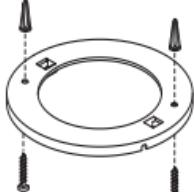
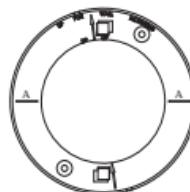

FIGURE 4
FIGURE 5
3. After selecting the proper smoke alarm location as described in Section 1, attach the mounting plate to the ceiling as shown in Figure 4. For wall mounting see Figure 5. Place mounting plate on the wall. Be sure the "UP FOR WALL MOUNTING" text and arrow are facing up. Use the screws and anchors provided to secure the mounting plate (use 3/16" drill bit for anchor holes).